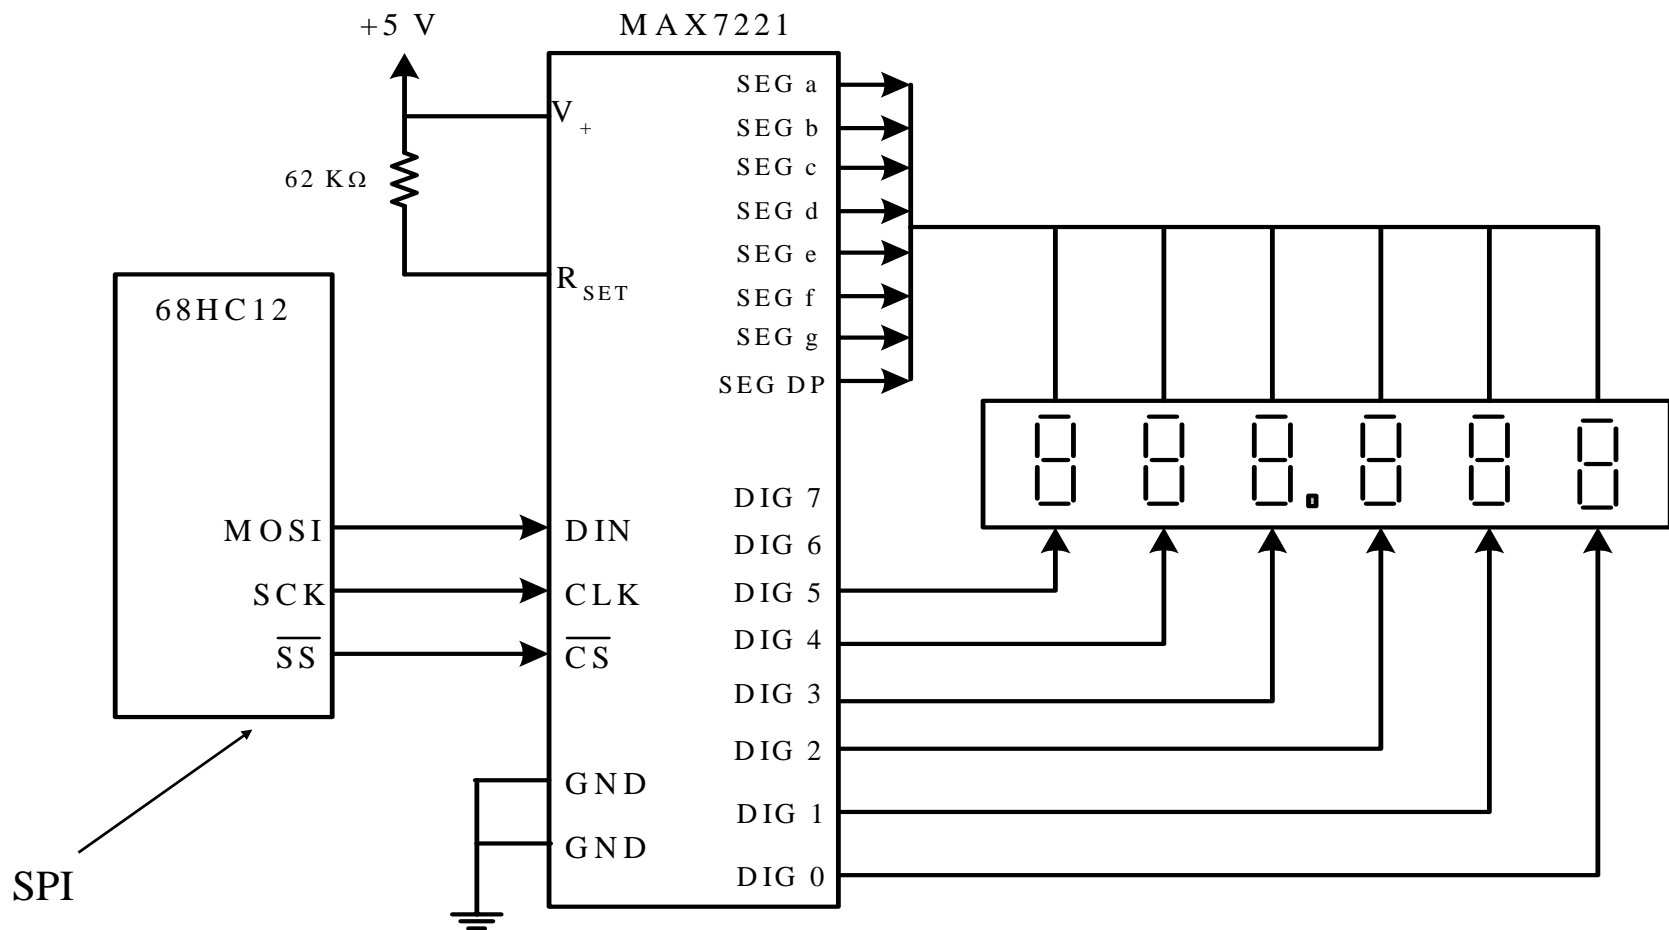

Figure 10.15 Digital thermometer display circuit
- Temperature will be displayed in six seven-segment displays, which will be driven by the MAX7221. The circuit is shown in Figure 10.15.